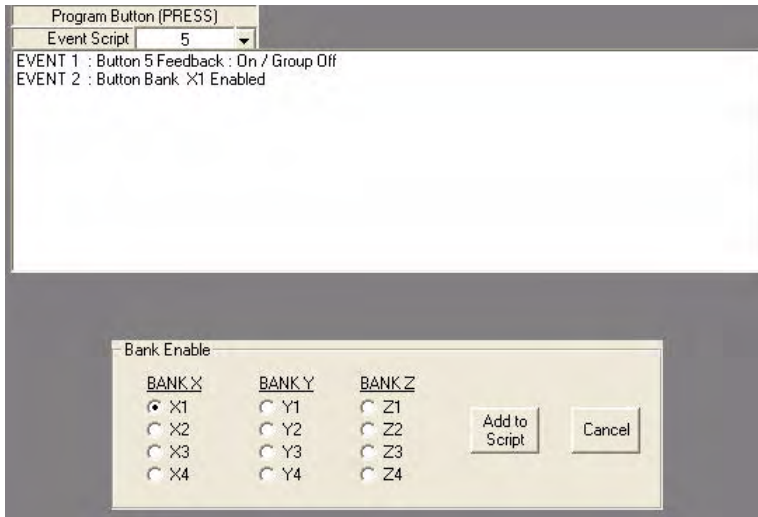

FIG. 68 Button 5 script, with Enable X1 Bank selected
- Write a script for Button 5 and include Bank Enable **X1** (FIG. 68).